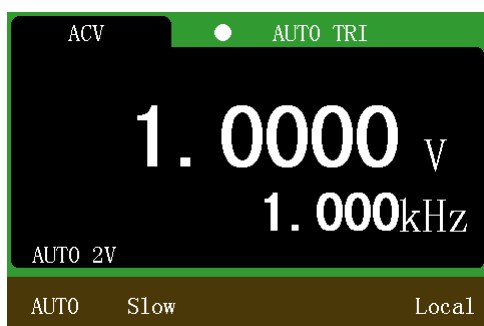

Figure 4-3 Measurement interface
1. Press  to select the AC voltage measurement function. The measurement interface is shown in Figure 4-3.